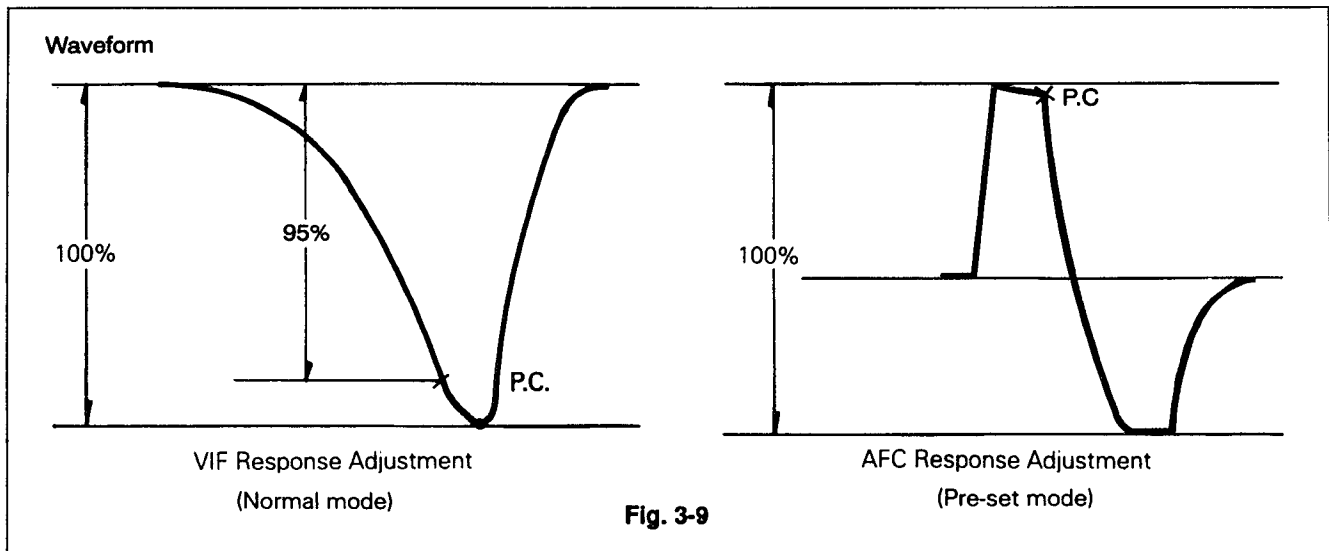

Fig. 3-9
- Adjust T701 and T702 so that the monitor waveform is as shown in Fig. 3-9.